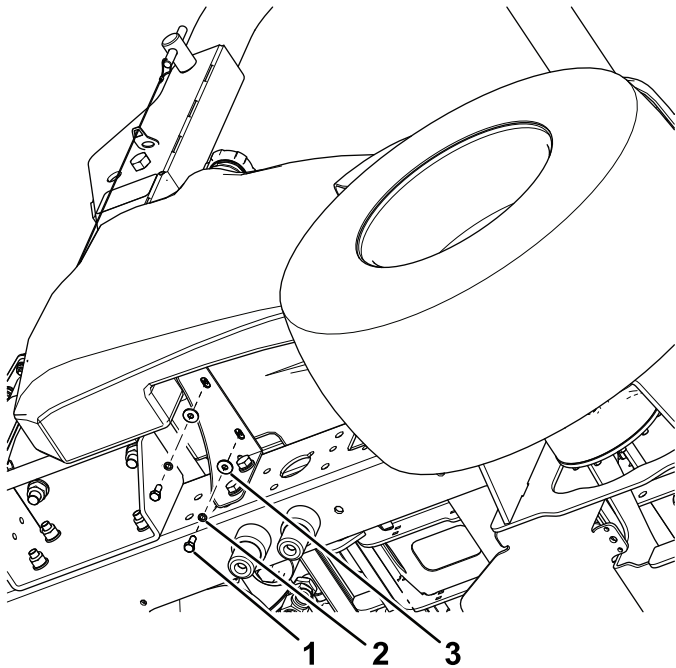

Figure 7
- Remove the 2 fasteners, 2 spring washers, and 2 washers securing the fuel tank to the fuel-tank bracket (Figure 7).